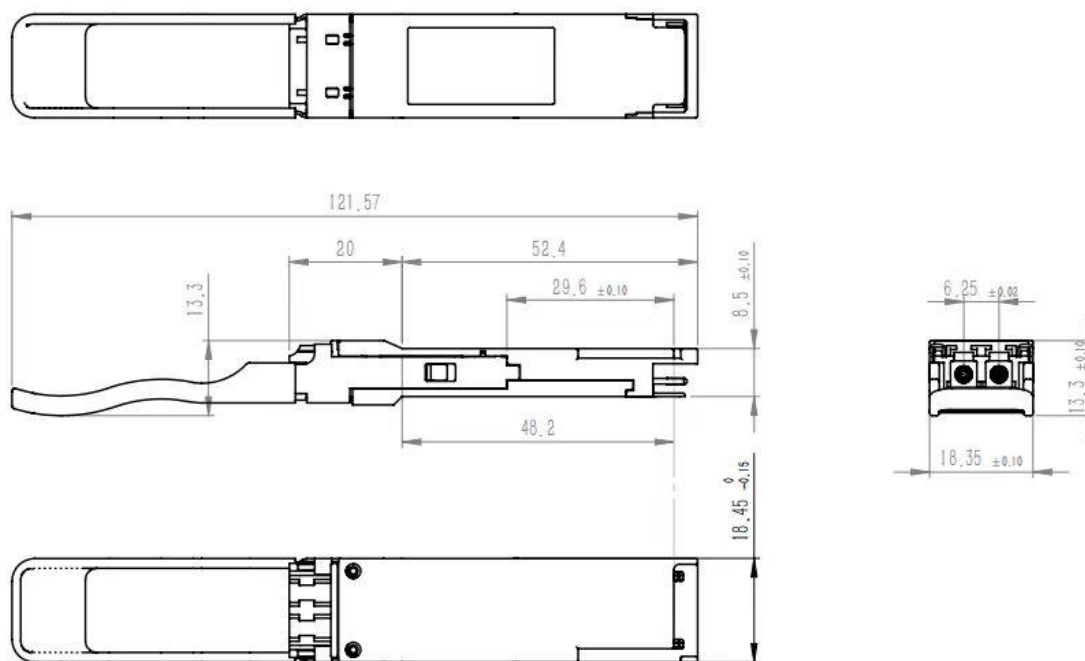

Figure 3. Mechanical Dimensions
2. VccRx, Vcc1 and VccTx are the receiving and transmission power suppliers and shall be applied concurrently. Recommended host board power supply filtering is shown in Figure 3 below. Vcc Rx, Vcc1 and Vcc Tx may be internally connected within the module in any combination. The connector pins are each rated for a maximum current of 1000mA.